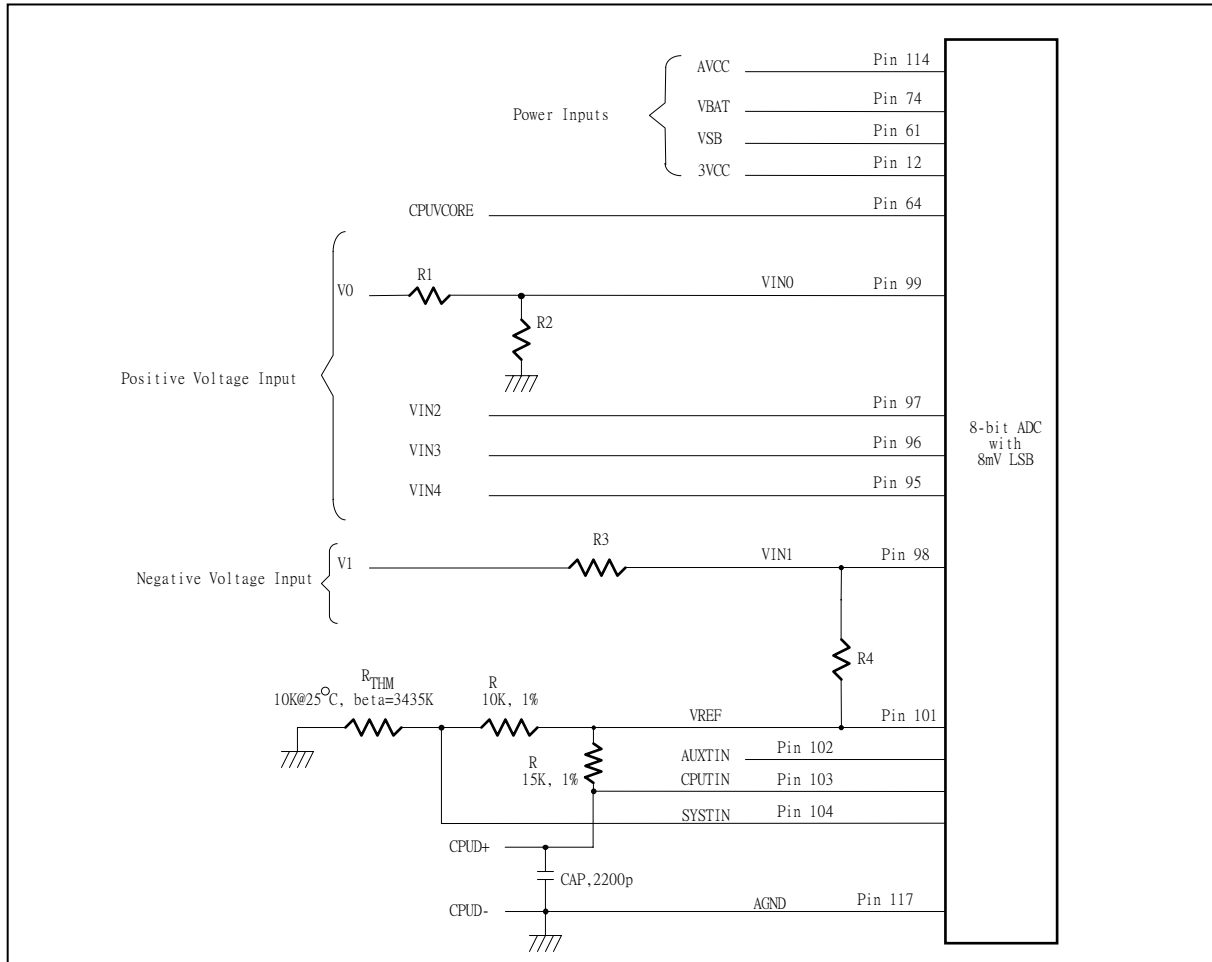

Figure 6.2
The maximum input voltage of the analog pin is 2.048V because the 8-bit ADC has a 8mV LSB. Really, the application of the PC monitoring would most often be connected to power suppliers. The CPU Vcore voltage , battery(pin 74), 3VSB(pin 61), 3VCC(pin 12) , AVCC(pin 114) voltage can directly connected to these analog inputs. The +12V voltage inputs should be reduced a factor with external resistors so as to obtain the input range. As Figure 6.2 shows.
The W83627EHF/EHG can connect three thermistors to measure three different environment temperature. The specification of thermistor should be considered to (1) β value is 3435K, (2) resistor value is 10K ohms at 25°C. In the Figure 6.2, the themistor is connected by a serial resistor with 10K Ohms, then connect to VREF (pin 101).